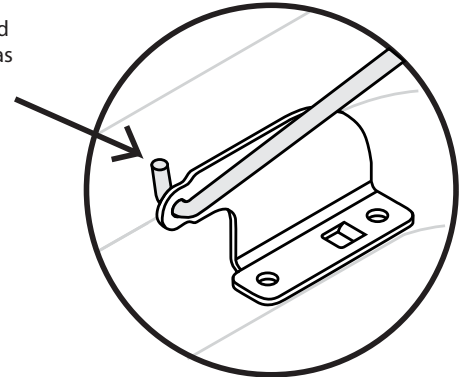

**Figure 18: Assembly of the Effortless™ oven rack**
4. Assemble one connector arm at a time. With the oven door open and the oven rack in place, install one end of the connector arm to the hole in the door connector bracket (Figure 17) and the other end in the hole in the rack connector bracket (Figure 18). The oven rack may need to be adjusted in or out in the rack position to match the length of the connector arm.